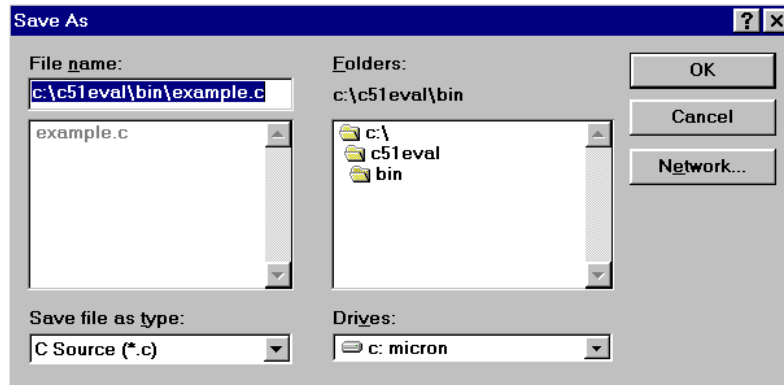
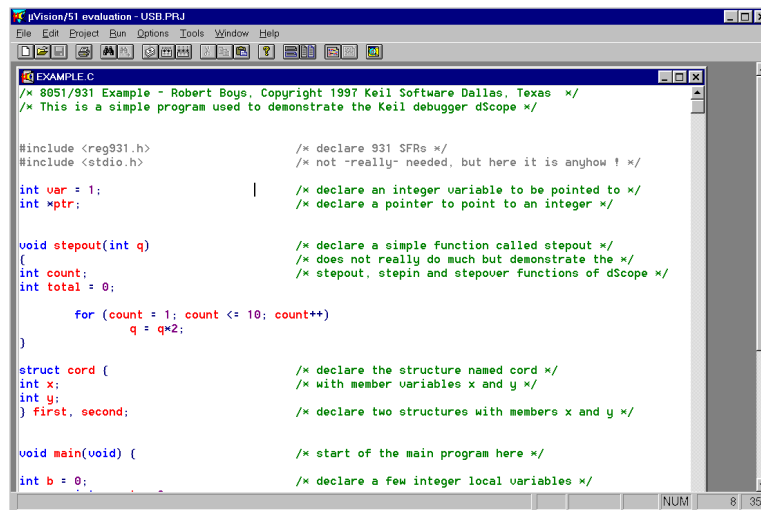

Figure 4
Figure 5
- 1) Do this step if you do not have the source. Open the File menu and choose *New* to go to the μ Vision integrated editor. Use the editor to type in *example.c* in Figure 6. It should look like Figure 5. When you have entered the file, do a *save as* to the *c:\c51eval\bin* directory as in Figure 4. The filename should be *example.c* for this tutorial. This will keep things easy to follow.
- 2) If you have the source code as a file, choose *Open* and get *example.c* in the usual fashion. Your window should be similar to Figure 5. Note the color syntax allowing increased readability of your
3) Open the File menu and choose *Save as*. The window similar to Figure 4 appears. Save this file in the indicated directory. This tutorial uses the directory: *c:\c51eval\bin* and the filename *example.c*. Normally your project and source code would be in a directory of your choosing.